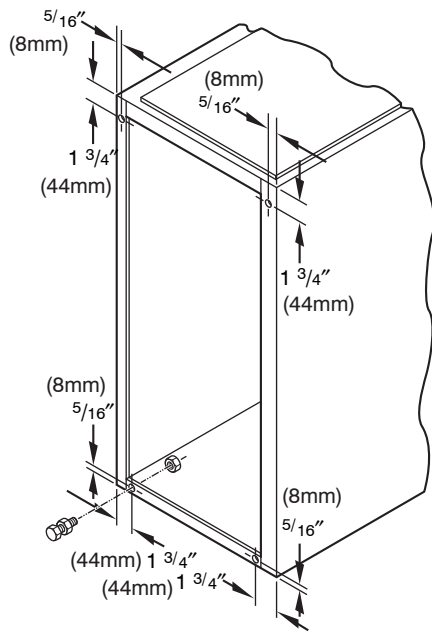

Fig. 18 - Leveling Legs
When furnace is used in upflow position with side inlet(s), leveling legs may be desired. (See Fig. 18.) Install field-supplied, corrosion-resistant 5/16-in. (8 mm) machine bolts and nuts.
1. Position furnace on its back. Locate and drill a 5/16-in. (8 mm) diameter hole in each bottom corner of furnace. (See Fig. 18.) Holes in bottom closure panel may be used as guide locations.